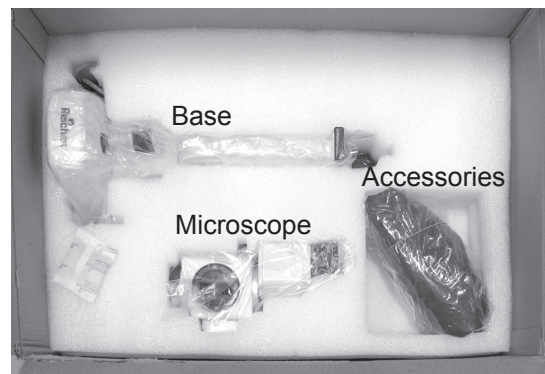

Figure SU-7 Microscope, Base, Accessories
10. Open the box with the Microscope Assembly. Remove the Microscope Assembly, Base Assembly, and Accessories. Refer to Figure SU-7.